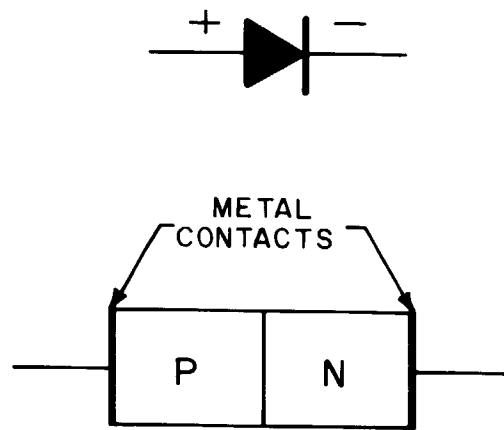
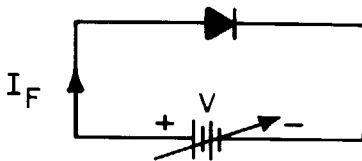

Figure 8-1. Diode Symbol
Figure 8-2. P-N Junction
A semiconductor diode is formed by the creation of a junction between P-material and N-material within a crystal during the manufacturing process. The standard semiconductor diode has in its symbol, an arrow to indicate the direction of forward current flow, as shown in Figure 8-1. With positive voltage applied to the P-material and negative voltage applied to the N-material, the diode is said to be forward biased, as shown in Figure 8-2. The current (I_f) increases rapidly with small increases in applied voltage (V).